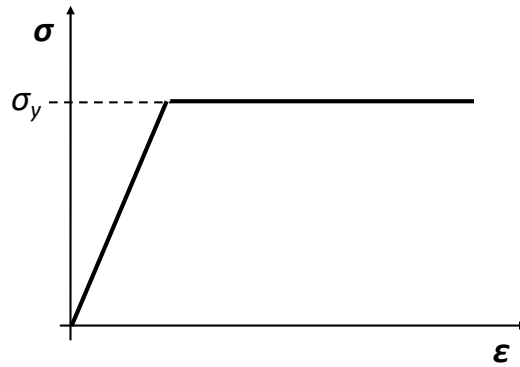

Fig. Q1
1. Fig. Q1 illustrates which type of material behaviour?